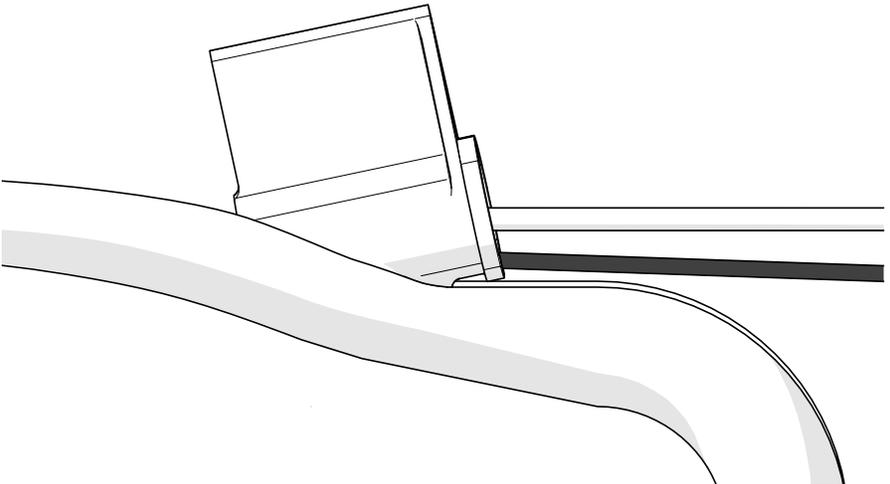

Fig. 21 - Wrap sleeving around cables and tubes using loom installation tool
3. Continue sliding the loom installation tool inside the sleeving, placing the cables and tubes safely inside the sleeving (*Fig. 21*).